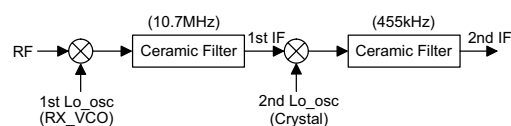

Figure 5 The illustration of mixers
A Mixer is a non linear device whose purpose is to convert radio frequencies (RF) to intermediate frequency (IF) (RF-to-IF frequency translation). In the frequency conversion process, RF signals are combined with the local oscillator frequency in a non linear device. The output of the mixer contains an infinite number of harmonic and cross-product frequencies which include the sum and the difference between the desired RF carrier and the local oscillator frequencies. The IF band-pass filter are tuned to the different frequencies. Therefore, the IF signal is filtered out by the BPF. In the HT9015 the double conversion method (Figure 5) is applied to produce the lower IF.